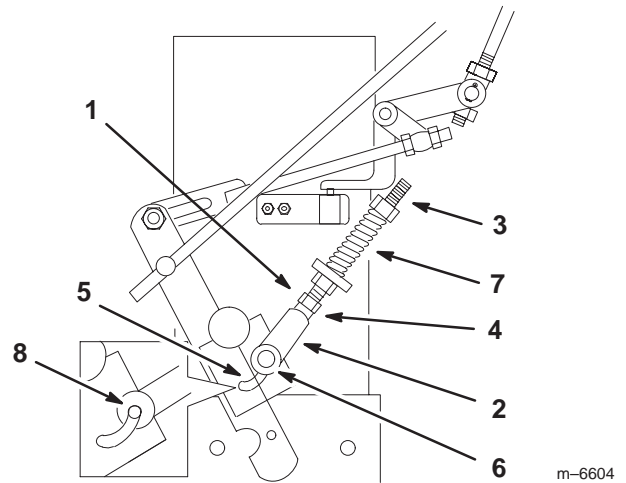

Figure 48
- Adjust the left and right neutral stud until the clevis pin in the yoke touches the back end of the slot in the control arm (Fig. 48).
- Loosen the nut against the yoke (Fig. 48).